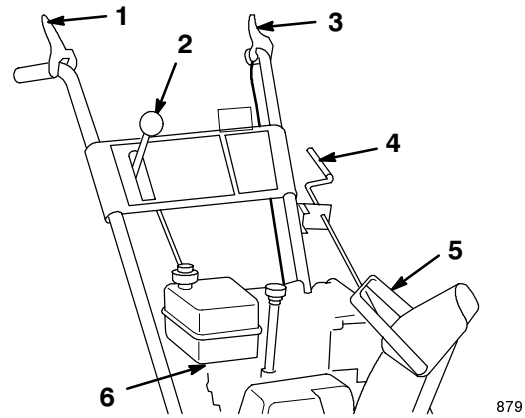

Figure 6
2. Move the speed selector (Fig. 6) on the control panel to the *R* (Reverse) position.
2. Adjust the two flange nuts up or down on the traction rod until the distance between the top of the handgrip and the bottom of the traction control lever (Figs. 6 and 7) is approximately $4\frac{3}{8}$ inches (11 cm).
4. Move the speed selector (Fig. 6) into third gear.
3. Check the distance between the top of the handgrip and the bottom of the auger/impeller drive control lever (Figs. 6 and 9). The distance should be approximately four inches (10 cm).